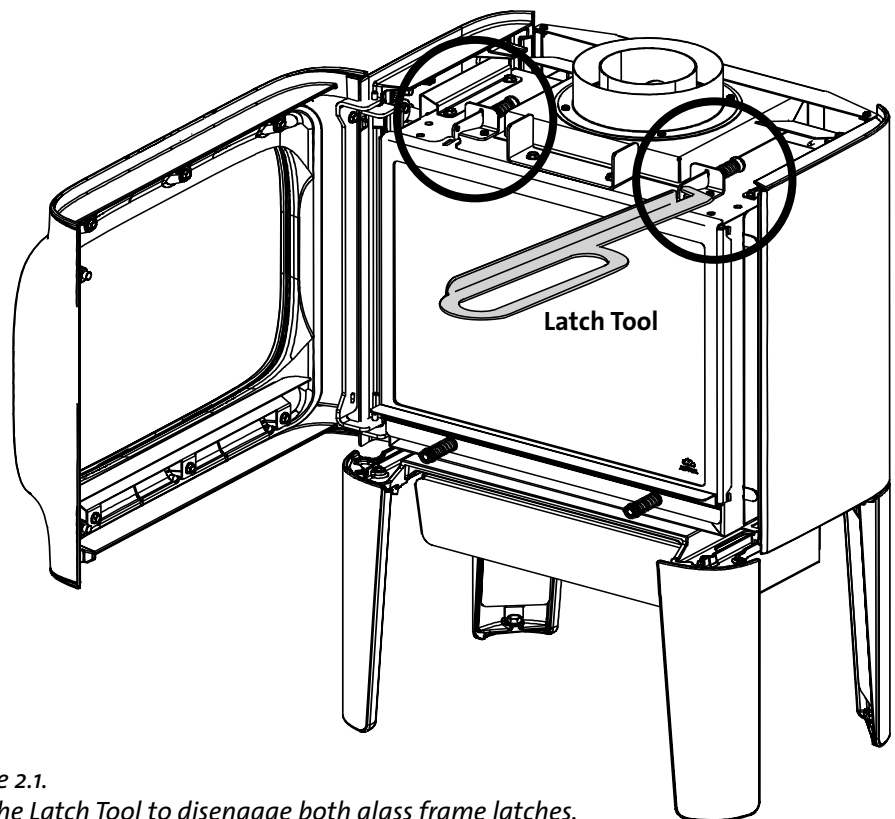

Figure 2.1.
- Engage the Latch Tool with the holes in the sprung glass frame latches, located on top of the firebox. See fig. 2.1. The top plate can be lifted off for easier access. Pull the latch hooks out to disengage them from the glass frame.